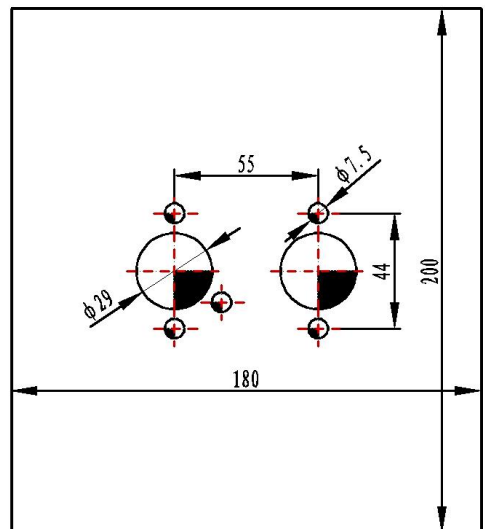

Fig. 12
4.2.4 If the sickness of the installation panel < 1.5mm a mounting plate may need. Between mounting plate and the car body must also be sealed (use glass glue Fig. 12).